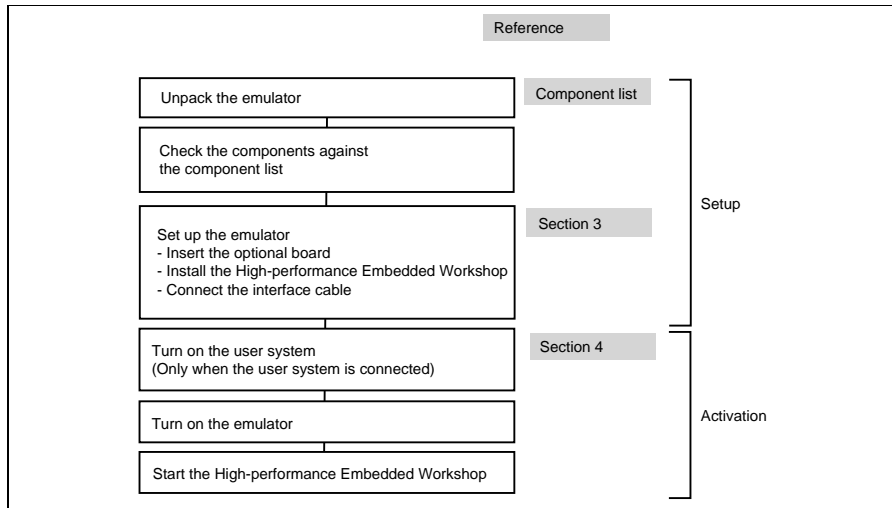

Figure 2.1 Emulator Preparation Flowchart
**READ the reference sections shaded in figure 2.1 before using the emulator product. Incorrect operation will damage the user system and the emulator product. The USER PROGRAM will be LOST.**